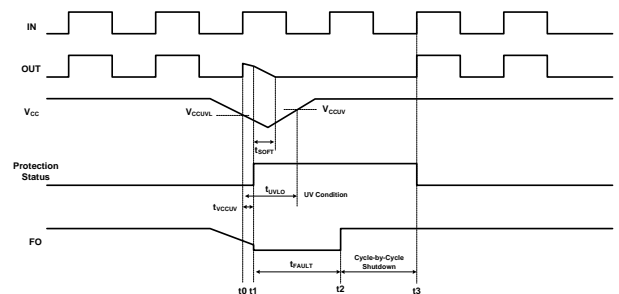

Figure 47. Timing chart of  $t_{UVLO} < t_{FAULT}$  condition
Gate drive output is softly turn-off and Fault-Out (FO) stays in the low state during fault-out time (typical 110  $\mu$ s) when the duration of under-voltage condition ( $t_{UVLO}$ ) less than fault-out time ( $t_{FAULT}$ ) as shown in Figure 47.